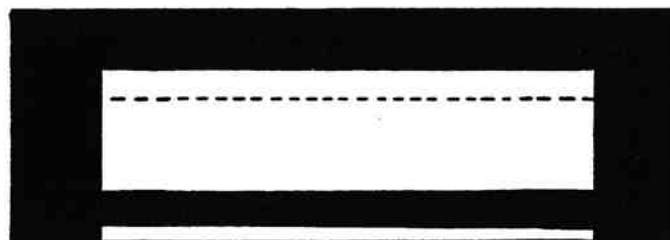

Figure 3-9. Replacing Lining Paper.
5. Replace the two liner or backing pieces on the vinyl (adhesive side), leaving a gap of one to two inches between the two pieces (figure 3-9). Replace liner paper on adhesive, plastic side down, exposing about 1-2" (25.4-50.8 mm) of adhesive.